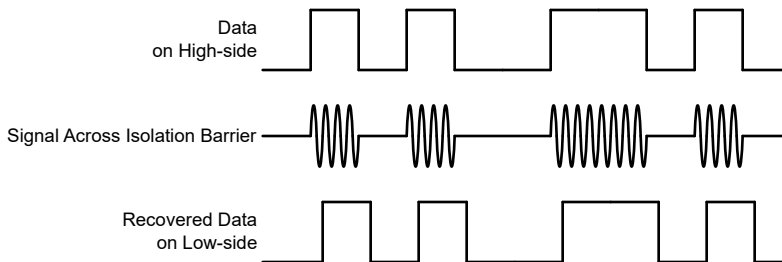

Figure 7-4. OOK-Based Modulation Scheme
The AMC23C12-Q1 uses an on-off keying (OOK) modulation scheme, as shown in Figure 7-4, to transmit the comparator output states across the SiO₂-based isolation barrier. The transmit driver (TX) shown in the Functional Block Diagram transmits an internally-generated, high-frequency carrier across the isolation barrier to represent a digital *one* and does not send a signal to represent a digital *zero*.